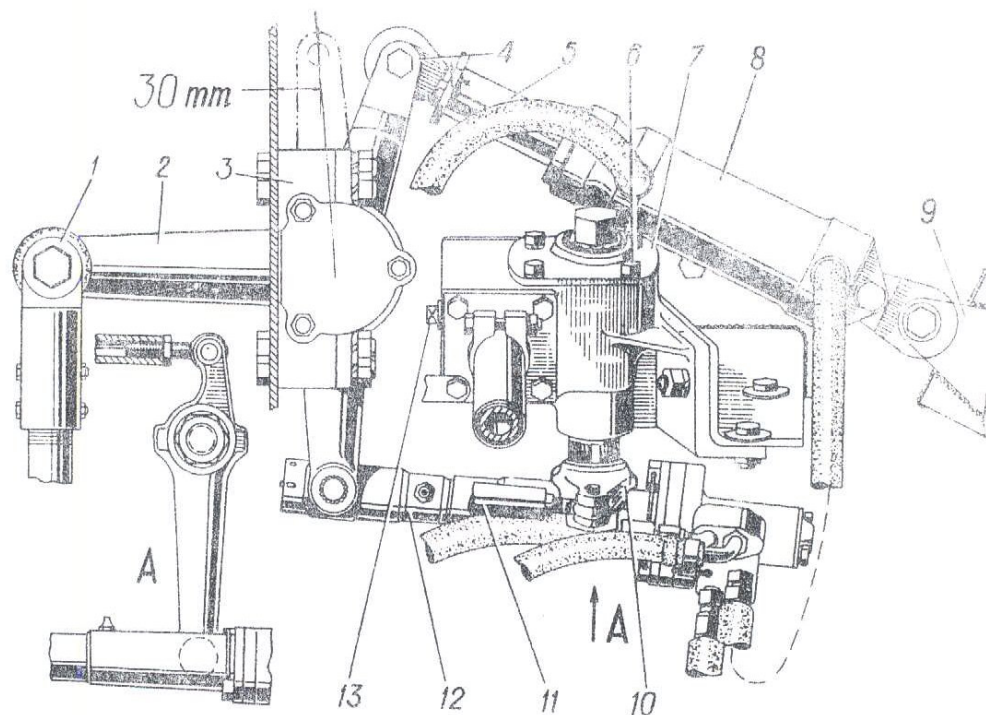

FIG. 46. STEERING CONTROL LINKAGE
Replace oil through the oil filler hole closed by plug 13 (Fig. 46) after having removed the steering gear from the vehicle. To pull out the steering gear it is necessary to remove a floor cover plate, disconnect rods from the steering arm, disconnect the steering gear hose clamp, disconnect the steering column U-bolt from the instrument panel, disconnect horn wire from the steering column, and unscrew the steering gear bolts.
- turn off plug 13 (see Fig. 46) of the oil filler hole and pour oil with the grease gun (see Fig. 151) up to lower edge of the hole, tighten the plug;
- unscrew upper bolt 6 (see Fig. 46) of the steering gear case side cover and add oil through the hole by means of the grease gun. Preliminary take out a pipe of the lever - plunger grease gun without auxiliary tip, insert it into the grease gun tip and fix with adhesive tape.
Use changed Fig. 46 shown below instead of the figure placed on page 85.